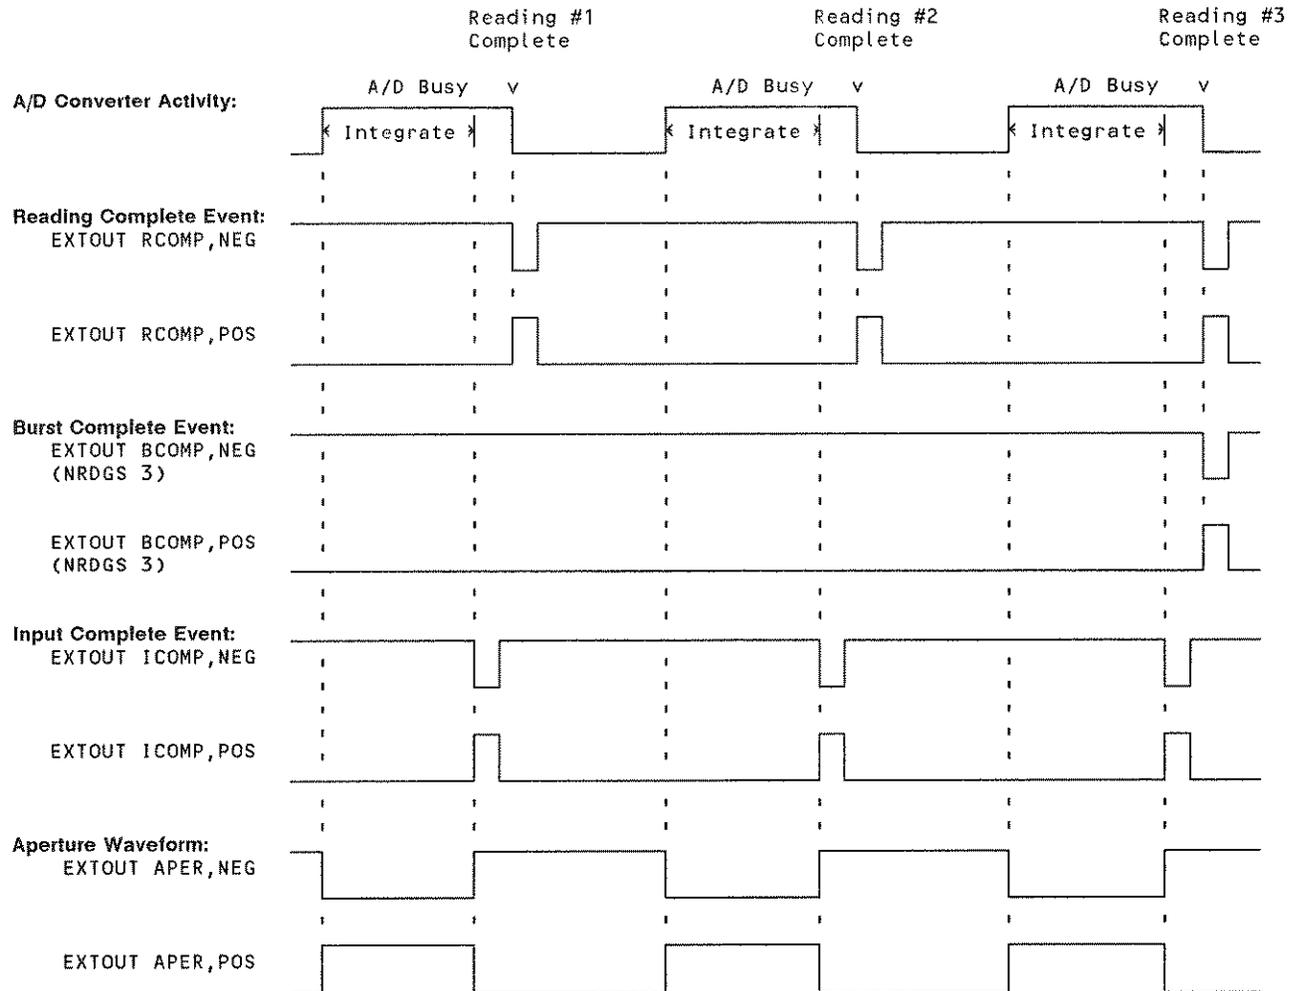

Figure 4-5. A/D Converter Event Relationships
Most of the above events apply to the multimeter's A/D converter. Figure 4-5 shows the relationship of these events to the A/D converter activity.
***NOTE:** The apparent time intervals shown in Figure 4-5 are for illustration purposes only. They are not meant to indicate the actual intervals produced by the multimeter.*
The input complete event (ICOMP event) is similar to the RCOMP event in that it produces a 1  $\mu$ s pulse for each reading. However, when the ICOMP event is specified, the pulse occurs when the A/D converter has finished integrating the input signal but before the reading is complete (see Figure 4-5). The ICOMP event can be used with an external scanner when making a single reading per scanner channel. This event is especially important when using a slower (relay type) scanner. Since the ICOMP event occurs before the reading is complete, it advances the scanner sooner than would the RCOMP event. The following program uses the ICOMP event to make one reading on each of 6 scanner channels. Notice that line 40 enables trigger buffering. This prevents the multimeter from generating the TRIGGER TOO FAST error should the scanner output a channel closed pulse before the present reading is complete. Connections for this example are shown in Figure 4-6.
When specified, the aperture waveform event (APER event) outputs a waveform indicating when the A/D converter is measuring the input signal. In addition to showing when a reading is being measured, the aperture waveform also shows any autozero and autorange measurements being made. This waveform can be used to synchronize external switching equipment to the multimeter. For example, to ensure an electrically quiet environment for high-accuracy measurements, it may be necessary to suspend the operation of external switching equipment while the A/D converter is integrating each reading. This can be done by enabling the APER event and by programming the external switching to occur only when the aperture waveform indicates that the A/D converter is not integrating the input signal. To following program line enables the APER event with positive polarity (see Figure 4-5):